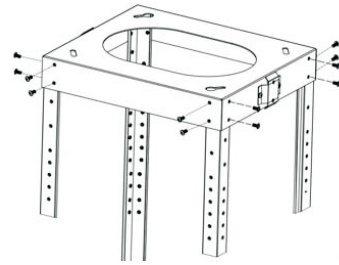

Fig.2
2. Fix 4 top mounting bars to the truss using 16 screws as shown Fig.2